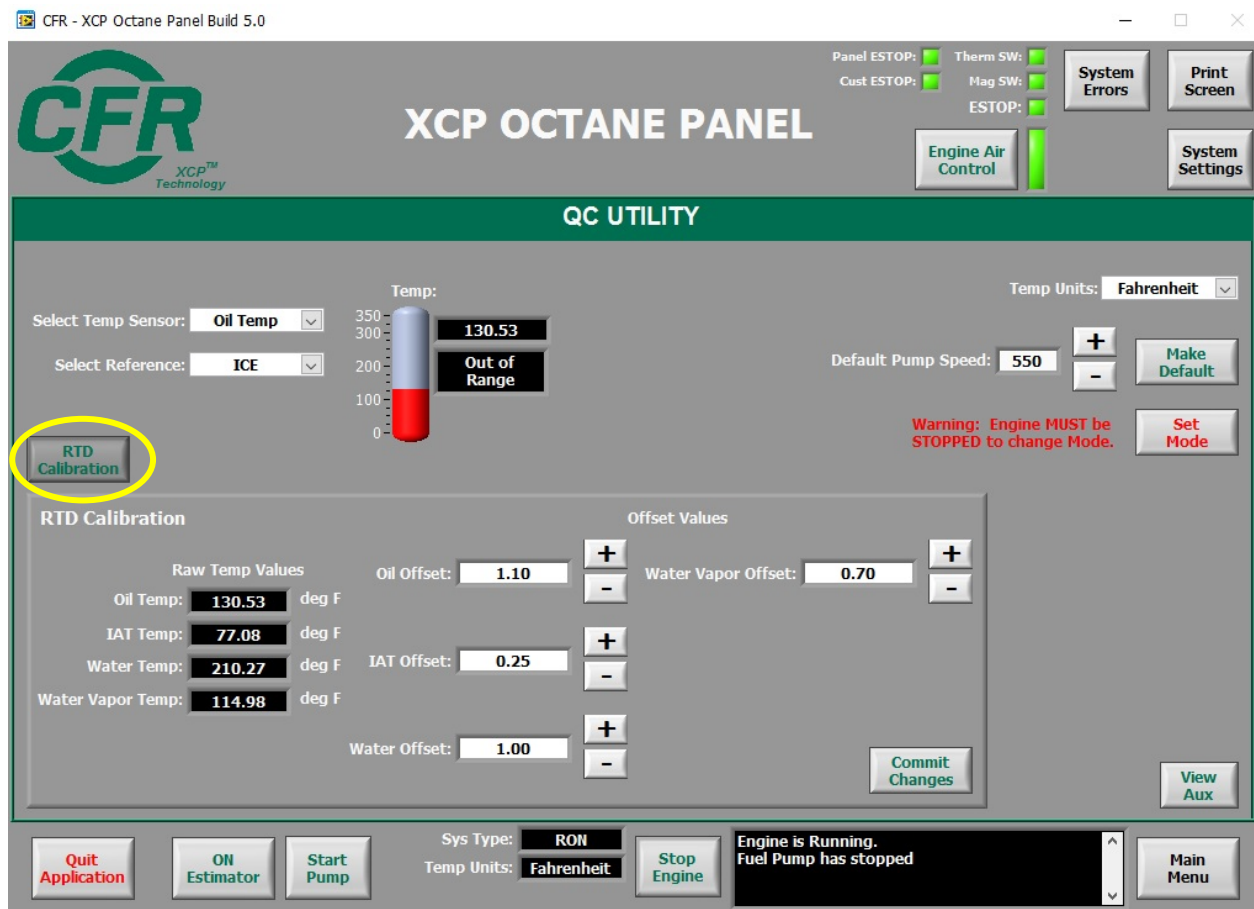

Figure 4
- Press RTD calibration button circled in yellow. See figure 4 This will then display a password text box. The default password is **password1** unless it has been changed by the site Mgmt.